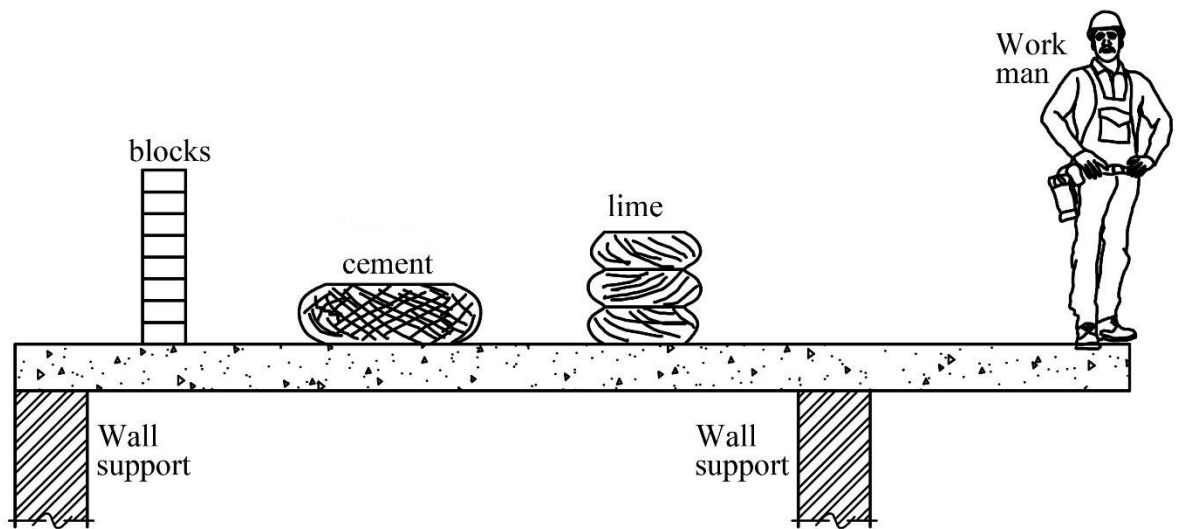

Fig. 2
2. During the construction of an extension at Debet Health Centre, the builders found it convenient to temporarily use an existing **12 m** span beam from a nearby building to support the building materials. The beam rests on two walls which are **9 m** apart. Several loads were then placed on the beam: **8** blocks positioned **1 m** from the end, a bag of cement at **2 m** from the blocks, **3** bags of lime at **8 m** from the cement and a Workman weighing **60 kg** standing at the extreme end, as illustrated in figure 2. However, a disagreement arose among the builders about whether the beam could safely sustain the loads placed along its length. Since none of the builders could perform a detailed graphical analysis, they were unable to make an informed decision about the safety of the beam.